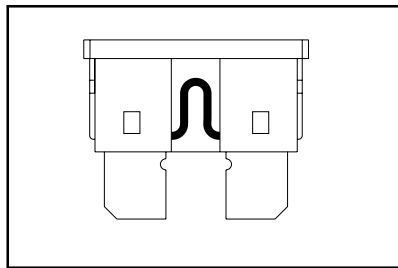

Figure 23. Working Fuse
- Examine the fuse to be sure it is blown. See figures 23 and 24.